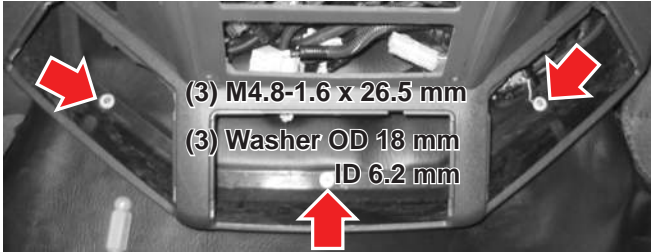

Figure 27-2
2. Install the cup holders (A5700046-001 and A5700045-001) and the center storage bin/cover (A5700044-001), if equipped (see Figure 27-2).